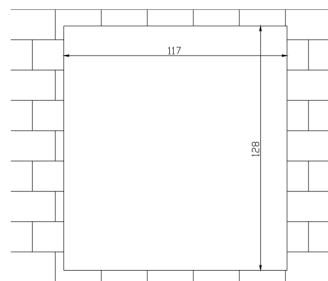

Figure 1
- a) Dig a hole on wall, its dimension is 117*128*80(mm).See Figure 1.